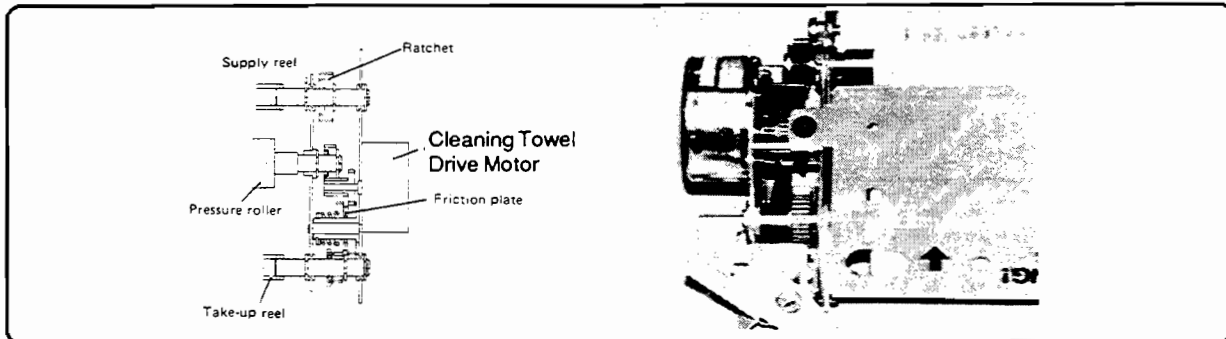

Figure 6-84. Fuser Cleaning Towel Assembly
3. Remove the two screws and open the towel cover (Figure 6-84).